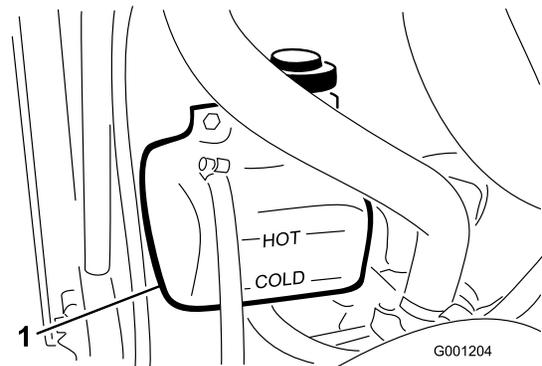

Figure 70
1. Check the level of the coolant in the expansion tank (Figure 70).